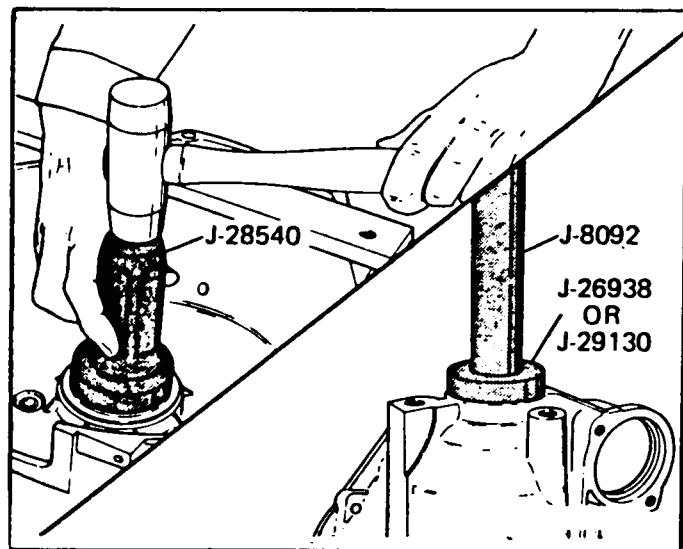

Figure 60
4. Install new converter seal with seal driver as shown in Figure 60.